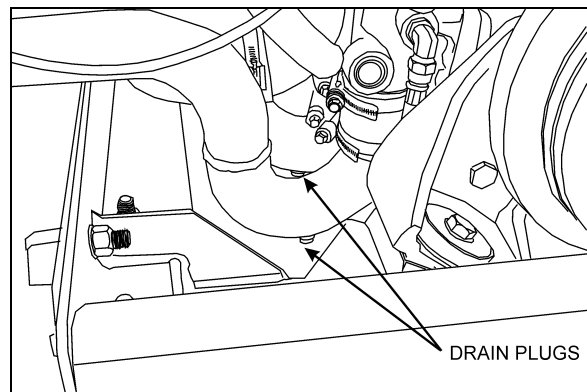

FIGURE 13: DRAIN PLUGS
3. Remove the water pump inlet pipe drain plug, plus the transmission oil cooler delivery line drain plug (Fig. 13). Drain the coolant into an approved container.